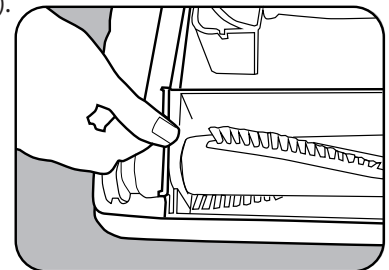
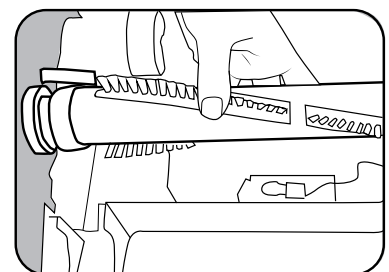

Fig. 4
Fig. 5
- Remove the belt guard (Fig. 4). Remove the agitator by pulling it straight out (Fig. 5).